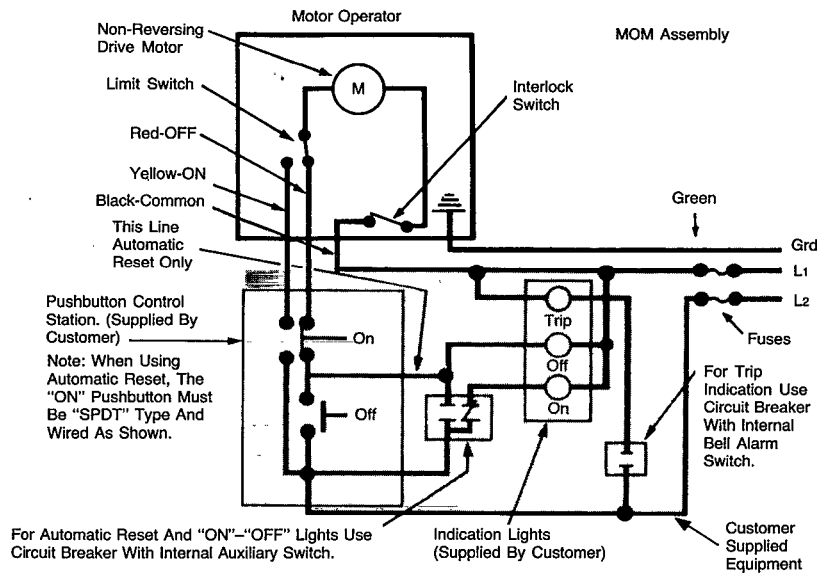

Figure 7
For automatic reset, an auxiliary switch, which is available as an accessory, is used to return the breaker to the OFF/RESET position after it has tripped. The switch is mounted inside the breaker and wired in parallel with the OFF button. When the breaker trips, the switch closes, moving the breaker handle to the OFF/RESET position. After the motor-operated mechanism has reset the breaker, the limit switch again opens the circuit. To use automatic reset, the ON pushbutton must be SPDT type and wired as in Figure 7.
5. Electrically test per specified electrical data above. Refer to Figure 7 for schematic and auto reset diagram.
6. Electrically test per specified electrical data above. Refer to Figure 7 for schematic and auto reset diagram.